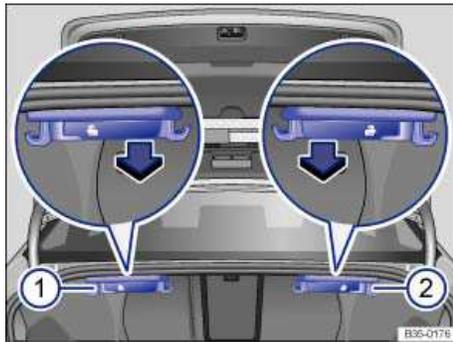

Fig. 101 In the luggage compartment: Release lever for the left 1 and right 2 sections of the rear seat backrest.
- Pull the remote release lever for the left ⇒ fig. 101 \(1\) or right \(2\) rear seat backrest in the direction of the arrow. The unlocked section of the rear seat folds forward automatically.